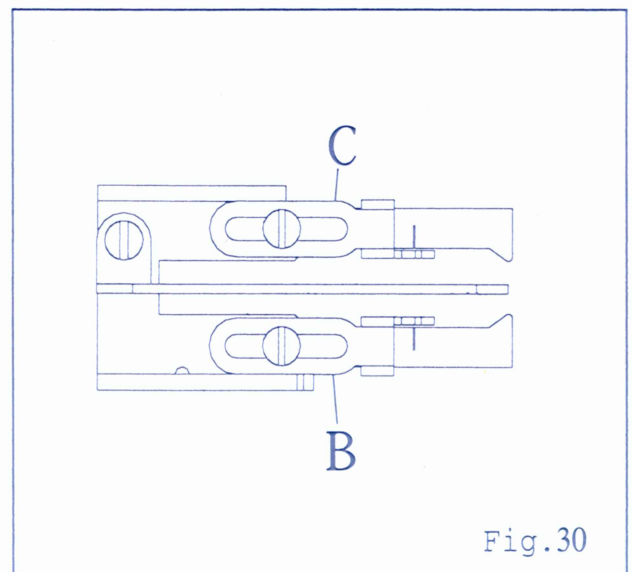

Fig. 30
2. When the thread through the Looper Thread Tension Knob and two Thread Eyelet (B.C) in a line, the front thread hole of Looper Thread Eyelet(B.C) locate at middle of channel and align with the nick. (Fig 30)